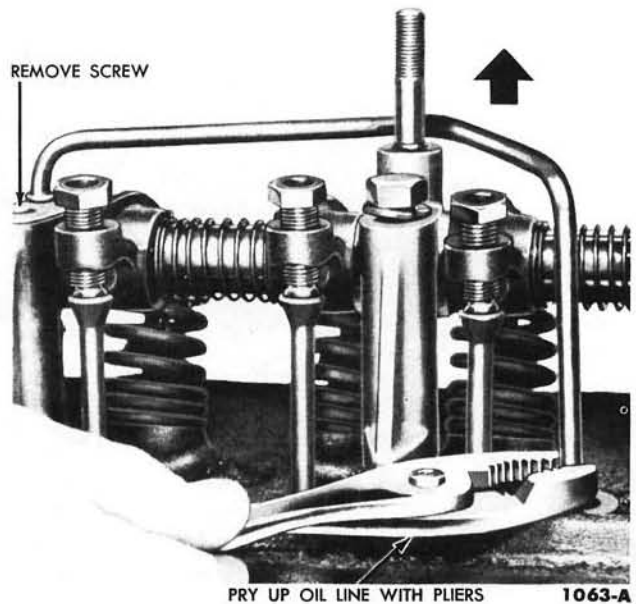

FIG. 12—Oil Line Removal
3. Remove the valve rocker arm cover. Remove the cap screw and bracket from the No. 6 valve rocker arm support. Pull the oil inlet line out of the support, then pull it out of the block with pliers (Fig. 12). Be careful not to damage the line. Remove the cap screws from the No. 1 valve rocker arm support, then remove the oil outlet line and bracket. Loosen all rocker arm adjusting screws to remove the valve spring